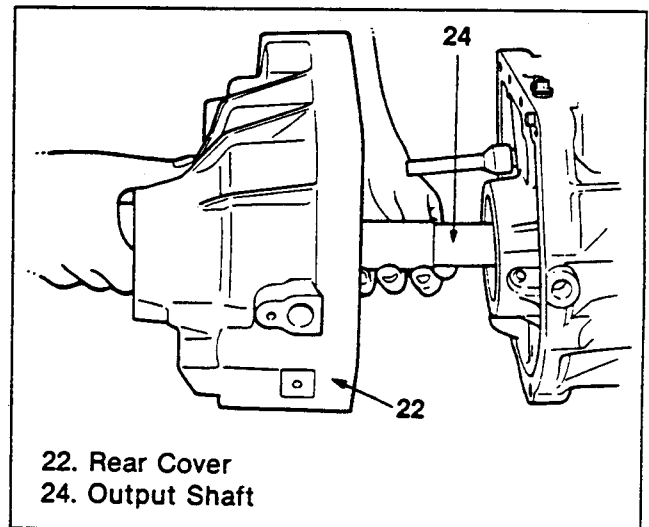

Figure 40. Rear cover and Output Shaft Assembly Removal (1)
5. Remove the rear cover and the output shaft as a unit (figure 40).